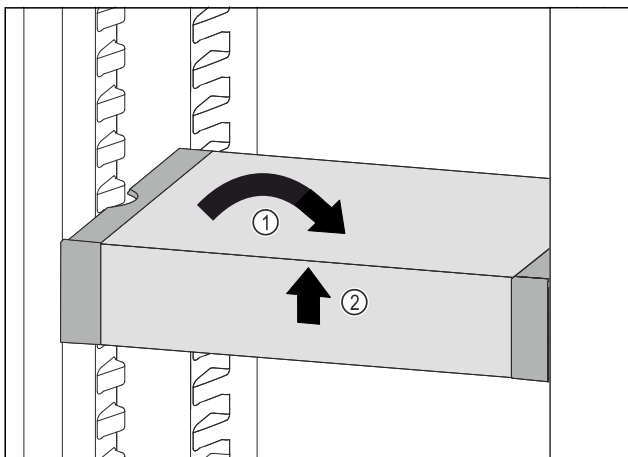

Fig. 116
- Set VarioSafe straight. Fig. 116 (1)
- Lift VarioSafe at the front. Fig. 116 (2)